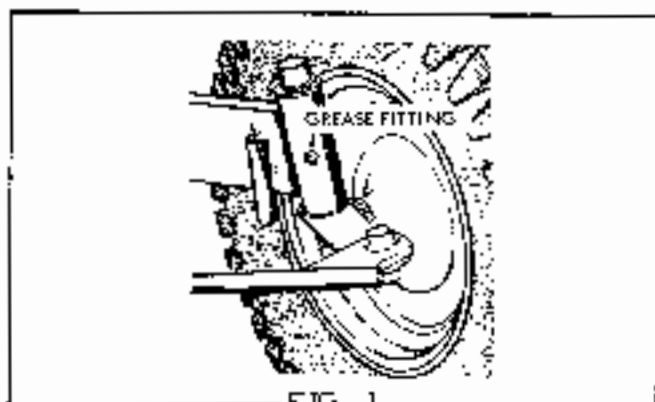

FIG. 1
- (2) Front Spindles - (Fig. 1)